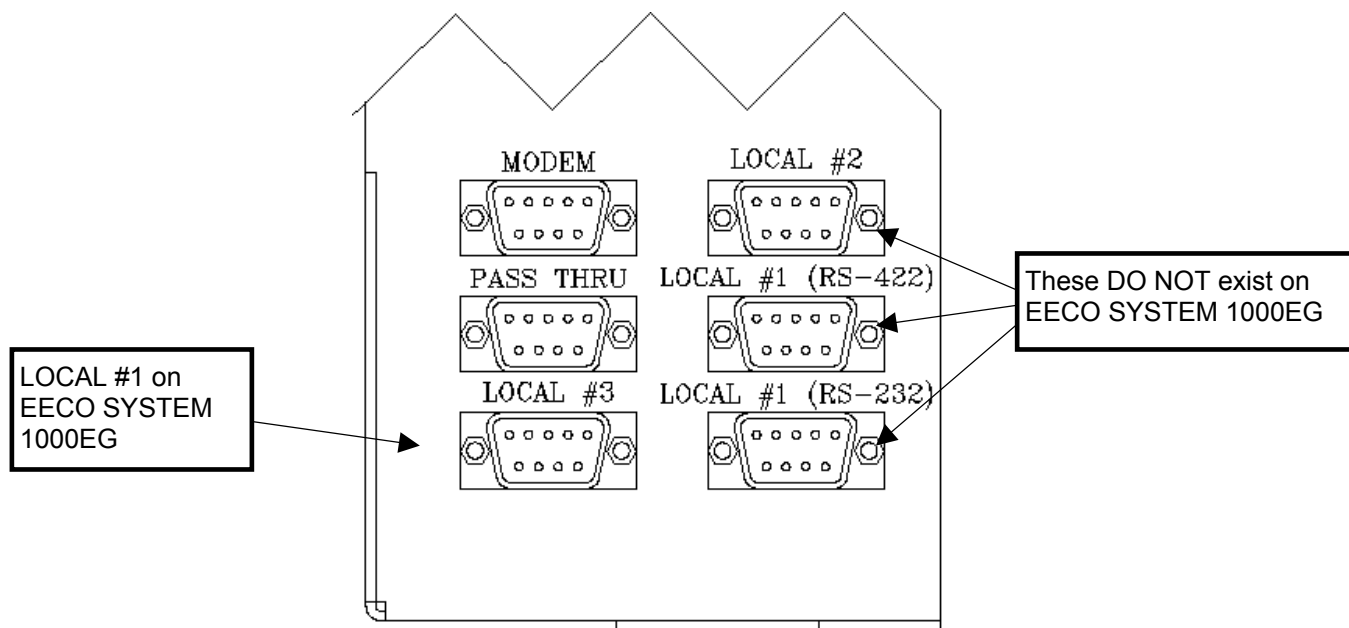

Figure 24 - EECO SYSTEM 1000EG / 2000 Serial Port Identification
- Plug the Modular Adapter into the appropriate DB-9 serial port at the ATG console. Refer to Table 4 and Figure 24 for the port location.